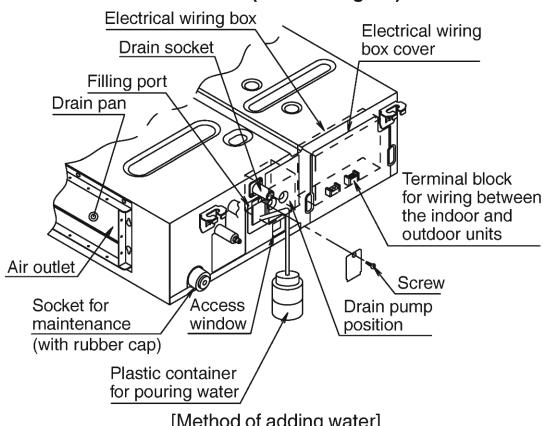

Fig. 17
10. FIELD SETTING. (Refer to Fig. 17)
- Gradually pour 1 litre of water from the air outlet on the left side of the drain socket into the drain pan giving caution to avoid splashing water on the electric components such as drain pump. (Refer to Fig. 17)